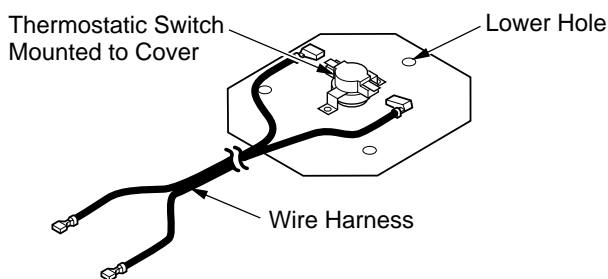

Figure 18 - Attaching Wire Harness to Thermostatic Switch and Cover Assembly
12. Locate thermostatic switch/cover plate assembly and wire harness supplied with blower. Attach wire harness terminals to terminals on thermostatic switch. Push firmly. Make sure the bottom hole of cover is on the opposite side from the wire harness (see Figure 18).